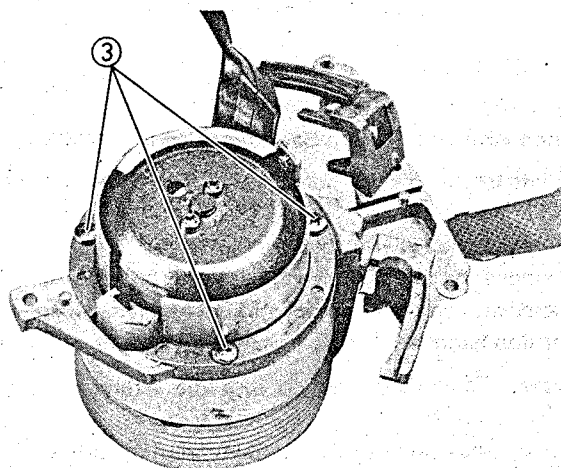

Fig. 2-92 Catcher Block Removal
2. Remove three (3) screws holding the cylinder assembly. (See Fig. 2-92)
3. Remove three (3) screws holding the catcher block.